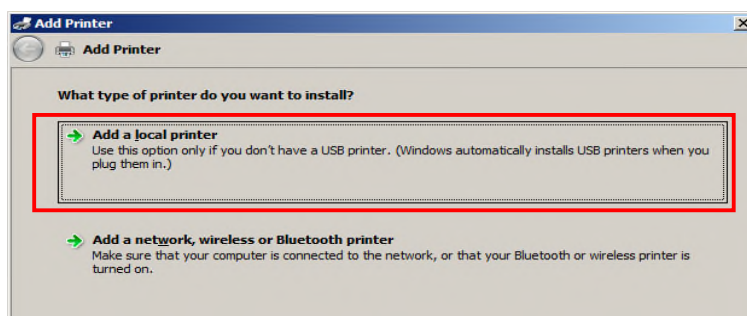

Figure 10.19 – Add a non plug-n-play local printer
- 8) On the Add Printer dialogue box shown below (Figure 10.19) select the “**Have Disk**” option and point it to where you saved the printer drivers on your USB drive.
- 17) If windows was unable to automatically select the proper driver to use you will be presented with the same screen as shown in Figure 10.19 and you will need to click “**Have Disk**” and specify a location where you have the printer driver saved.